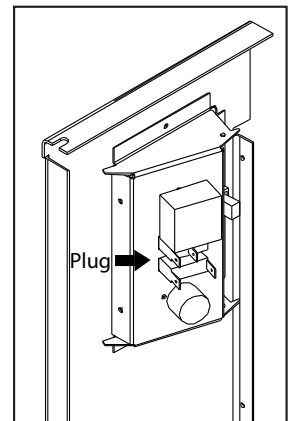

Figure 34: Control Panel Back.
After the surround has been assembled and is ready to be installed on the unit, plug the wiring harness into the control panel (see Figure 34).
4. Plug the wiring harness into the control panel (see Figure 34).